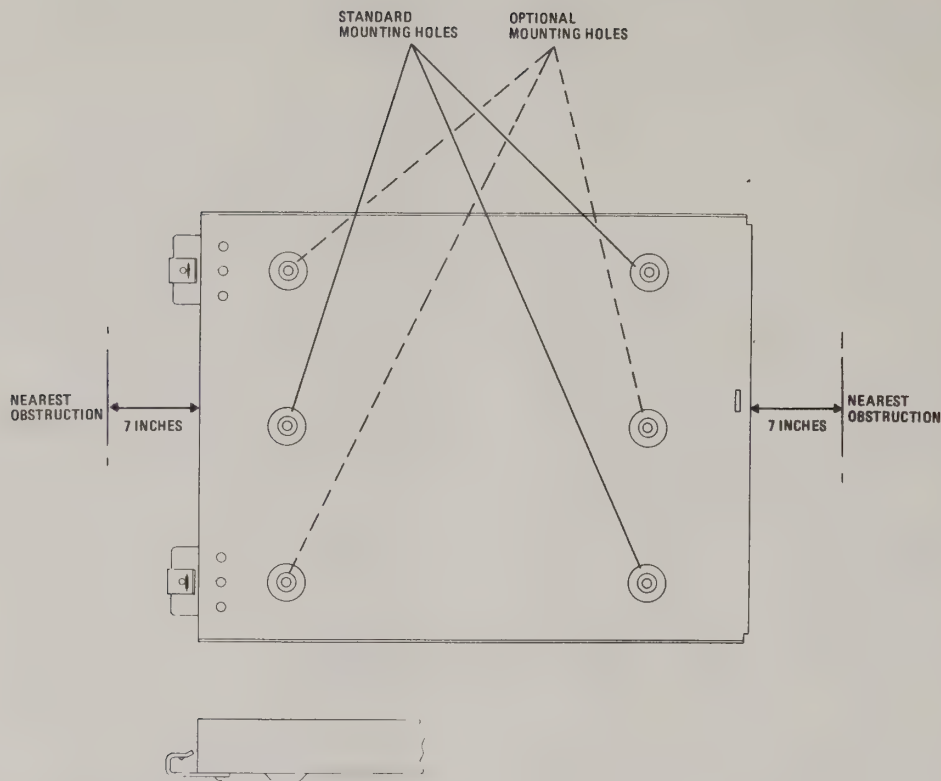

Figure 2-1. Transceiver Mounting Details
- (a) Referring to figure 2-1, place Transceiver mounting tray in desired location. Allow at least seven inches in front and two inches in back to the nearest obstruction. The location should allow the tray to be mounted without twisting. (Shims may be used.)